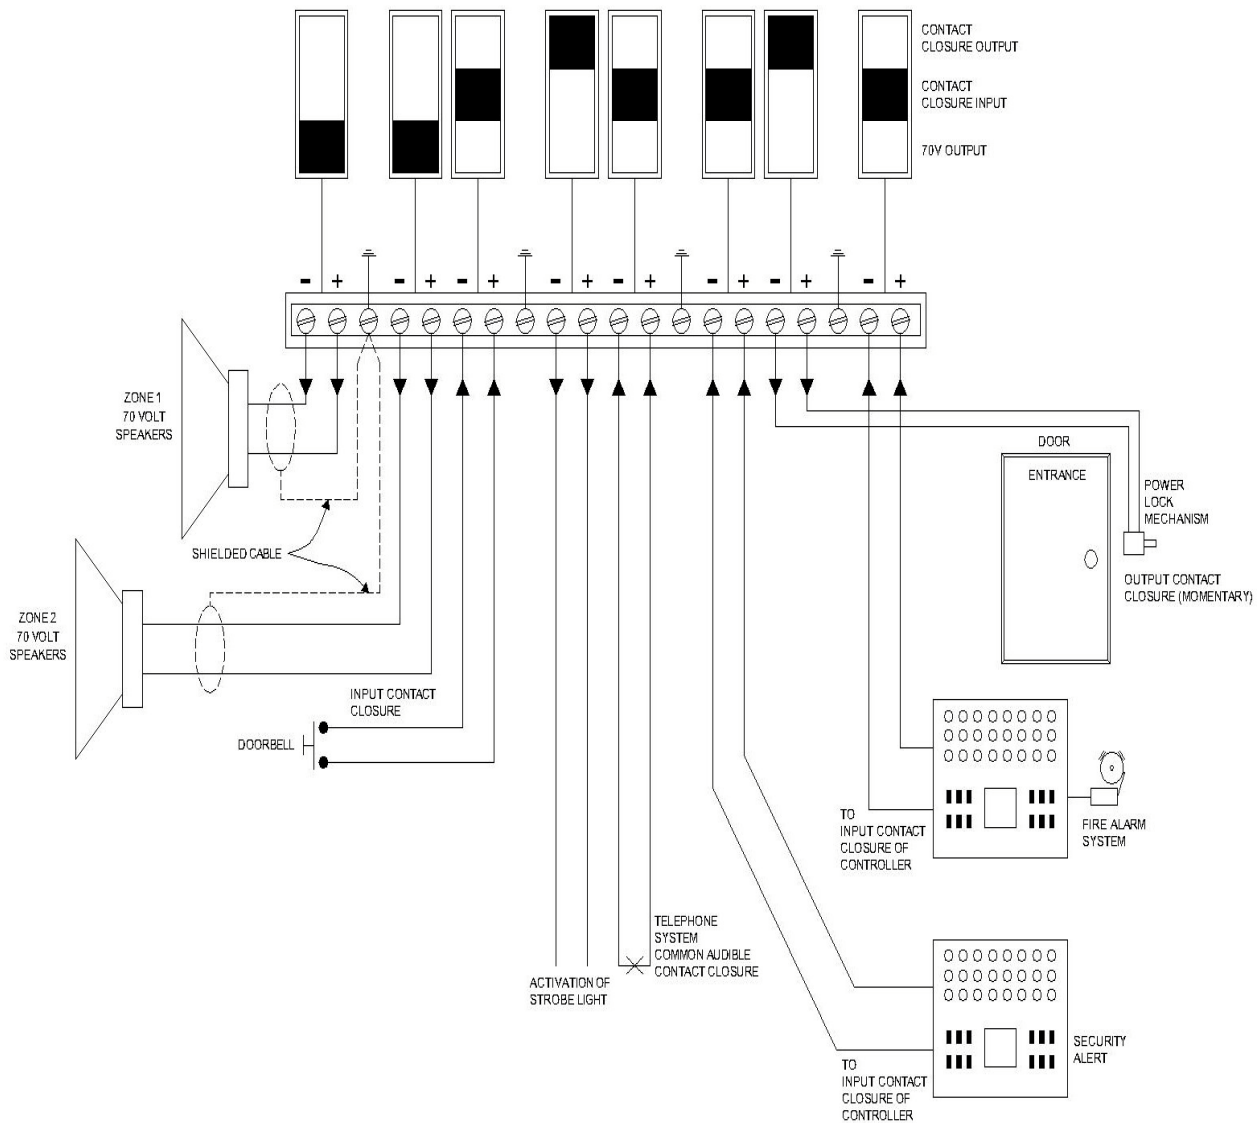

Figure 15. 70 volt Speaker and Contact Closure Zone Wiring to Controller
4. Make zone connections to Controller and any Zone Expansion Units. See Figure 15.